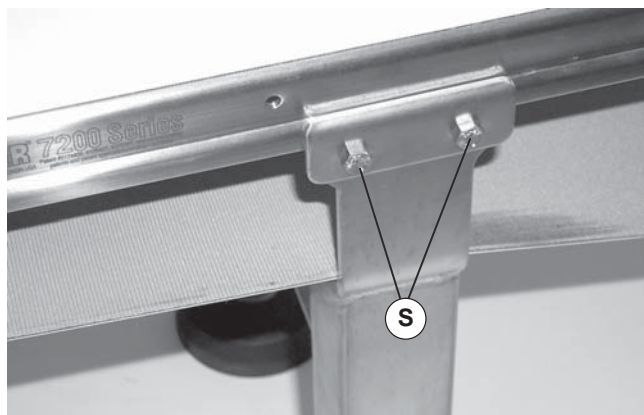

Figure 23
7. Loosen two clamp plate screws (Figure 23, item S) on side of conveyor opposite drive motor.
3. Tighten two clamp plate screws (Figure 23, item S)